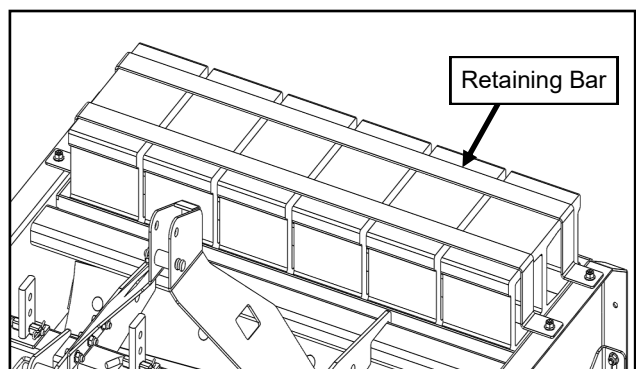

Fig. 5 (Retaining Bars)
5. Secure the cinder blocks using both retaining bars as shown in Figure 5. Bolts heads shown and locknuts underneath. Torque the 4 bolts to 110 ft.-lbs.